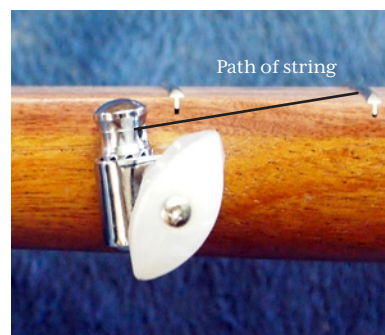

FIG. 18
- 16. Install the 5th peg into the hole in the side of the neck, as shown. (fig. 18) Use your fingers to get it started, and take a look from the side view to make sure the post is turned a little off vertical to make it easy to wind the string on it at the angle from the top of the fretboard.